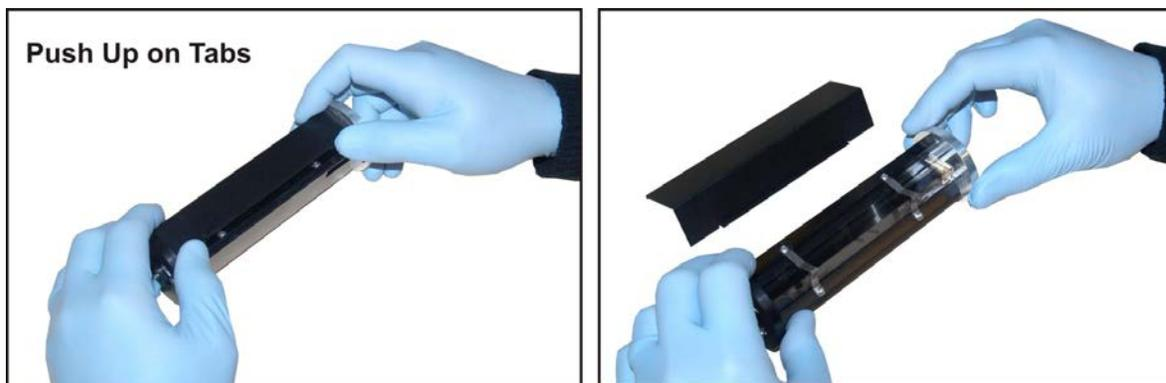

Figure 3 Remove Cover
2. Carefully remove the black aluminum cover to expose the two Integrator Spring Clips (**Figure 3**).